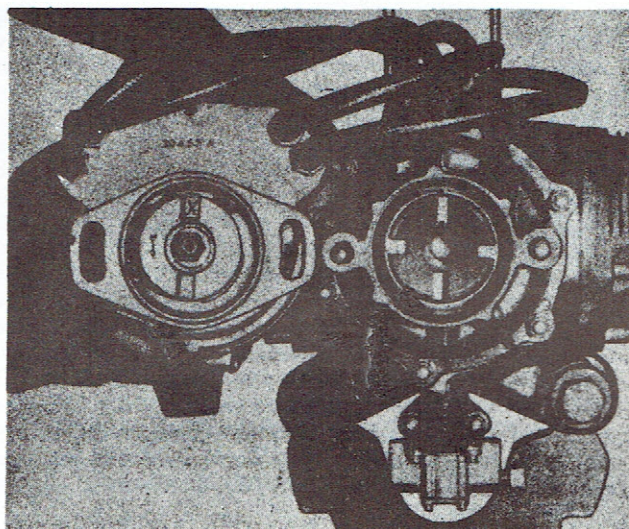

Figure 9-5. Installing Magneto
- Turn the crankshaft until the mark "X" on the face of the magneto drive assembly is on the top. (See figure 9-5.)